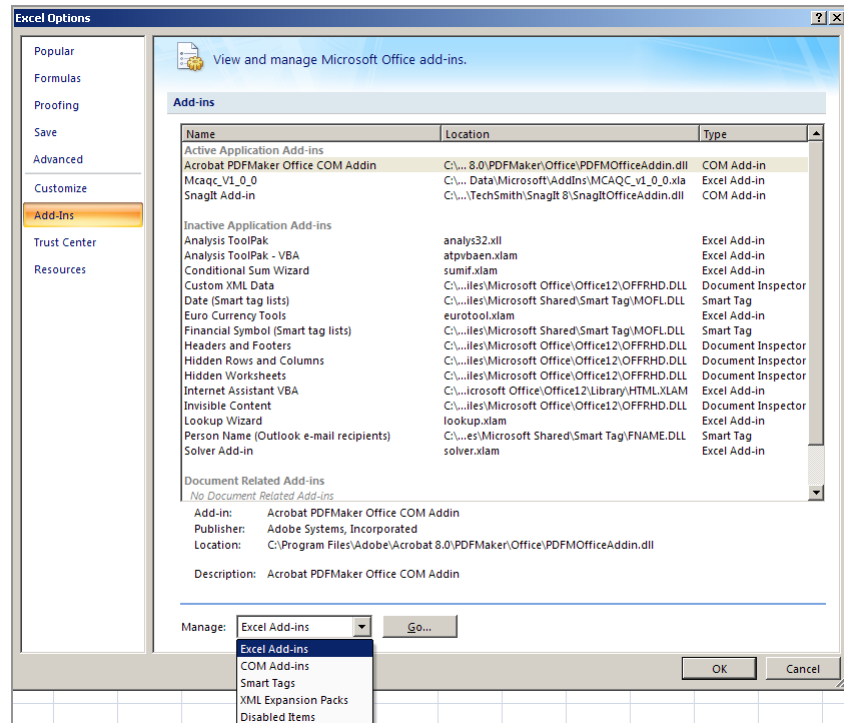

Figure 107 Selecting Excel Add-Ins
- In the **Manage** box, click **Excel Add-ins**, and then click **Go** (Figure 107).